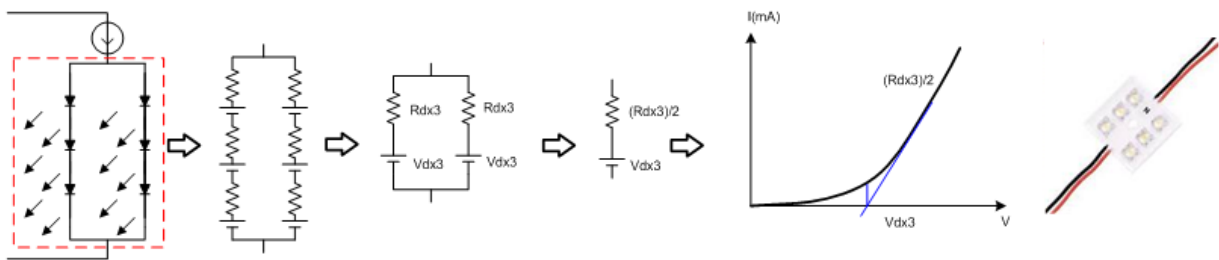

Fig 5-11 Several LED cascading and parallel connection and characteristic curve
1.4 In parallel connection stacks of LED: Several LED stacks in parallel connection is also Can get more output brightness, V_d also will increase as series R_d is according to the Cascade and parallel. Fig 5-11 is 2 stacks LED to parallel, are the LED's equivalent Circuit and exponential V-I characteristic curve.